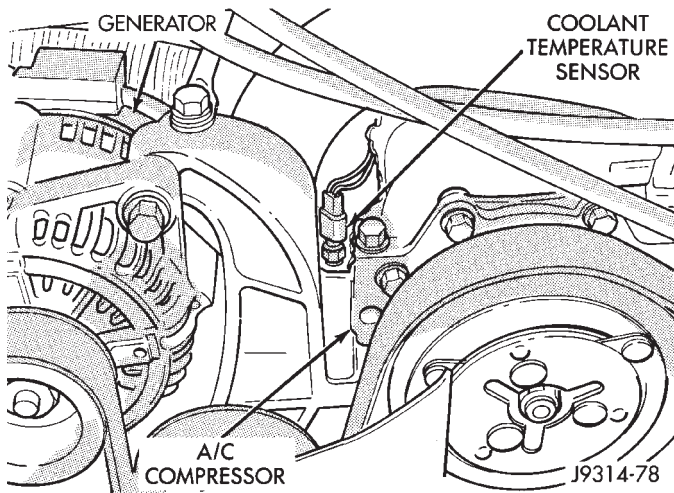

Fig. 11 Coolant Temperature Sensor—5.2L Engines
The engine coolant temperature sensor on the 5.2L engine is located in a water passage of the intake manifold next to the thermostat housing (Fig. 11).
- (1) Partially drain cooling system. Refer to Group 7, Cooling.
- (2) Disconnect electrical connector from sensor (Fig. 11).
- (3) Engines with air conditioning: When removing the connector from sensor, do not pull directly on wiring harness. Fabricate an L-shaped hook tool from a coat hanger (approximately eight inches long). Place the hook part of tool under the connector for removal. The connector is snapped onto the sensor. It is not equipped with a lock type tab.
- (4) Remove sensor from intake manifold.